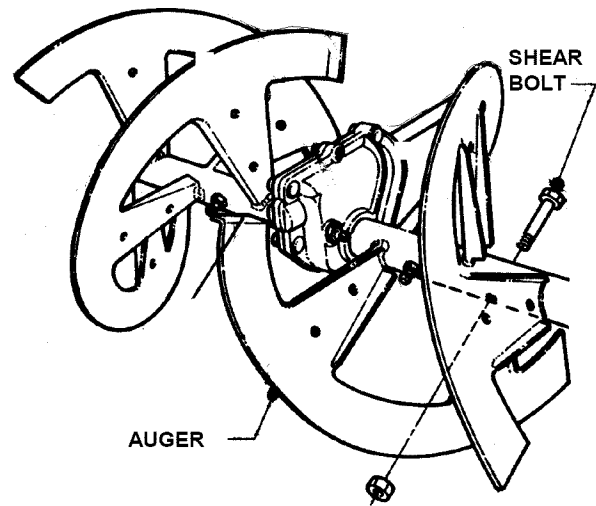

FIGURE 4.11
2. Install new shear bolts and nuts. Tighten to 5 to 10 ft. lb. of torque. See Figure 4.11.